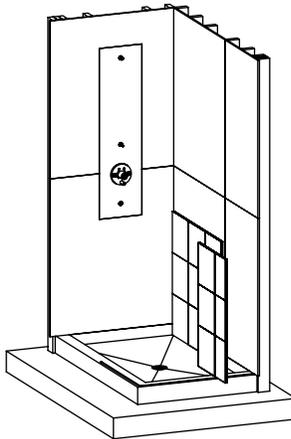

figure 20
2. Carefully place wall panel 2B into place, making sure the grout lines are aligned. Use a 1/8" spacer between the shower pan and the bottom of the panel. Match the space between the panels with the rest of the grout lines on the panel. Use spacers if necessary. (fig. 20).